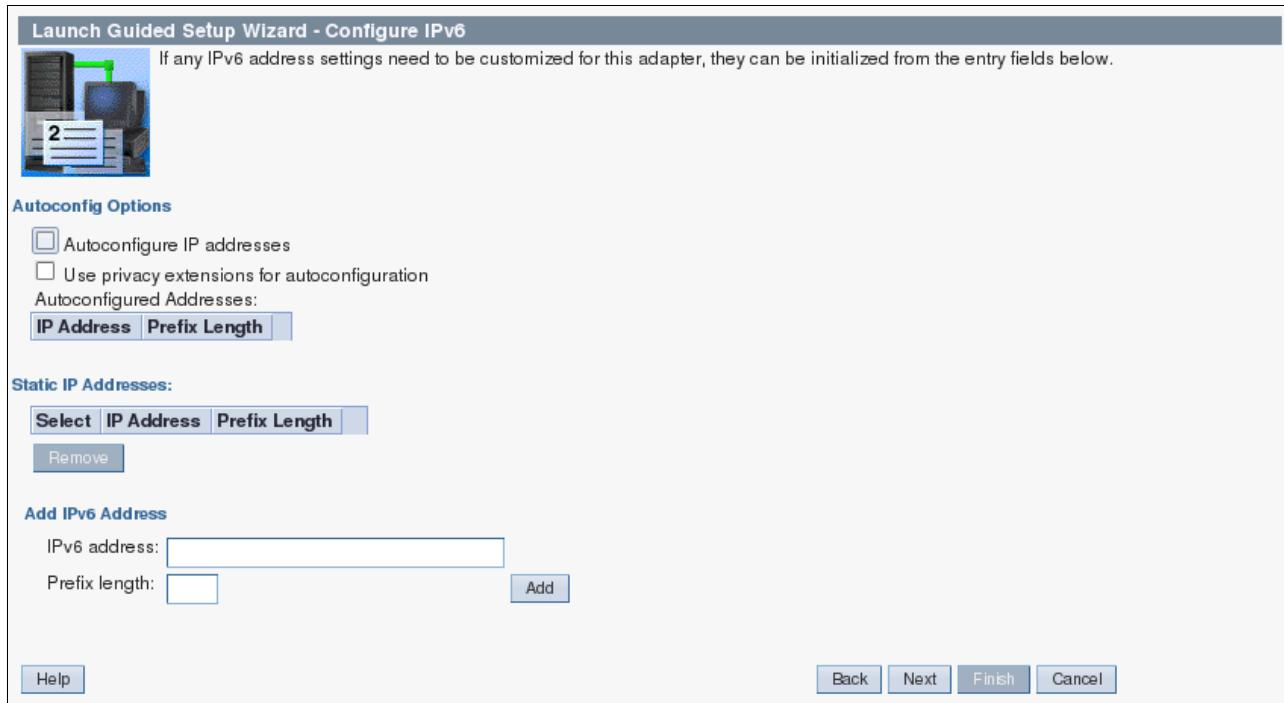

Figure 3-95 IPv6 configuration
24. If no IPv6 configuration is required, click **Next** (Figure 3-95).